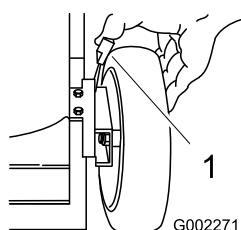

Figure 18
1. Pull the wheel height adjustment lever toward the wheel (Figure 18) and move it to the desired setting.